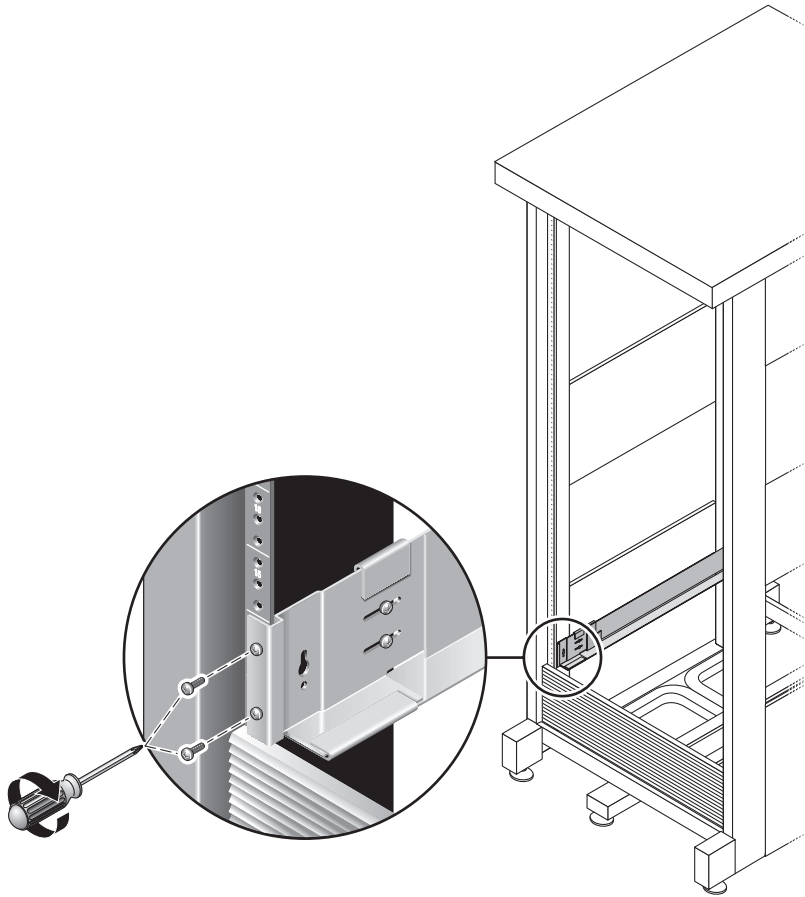

FIGURE 2-6 Securing the Right Rail to the Back of the Cabinet
7. Using the No. 3 Phillips screwdriver, insert and tighten the M6 screws on each side at the back of the rail (FIGURE 2-6).